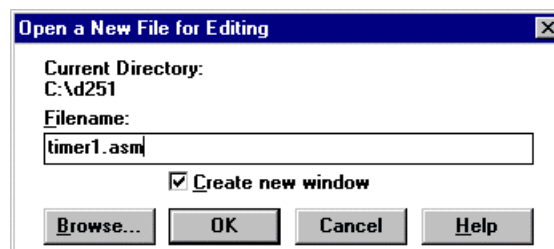

Figure 6 Open New File
1. Open the EDE File menu and choose New. The dialog shown in Figure 6 appears: